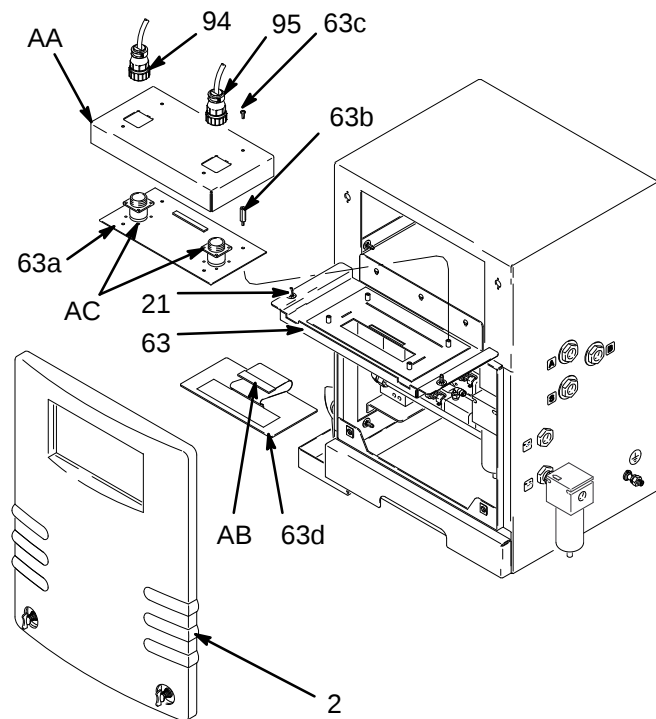

Fig. 1
4. Remove the control front cover (2). See Fig. 1, on the back page.
5. Loosen the two screws (21) from the control panel (63) to allow the panel to drop forward.
6. Disconnect the wire harnesses (94, 95) from the two circuit board connectors (AC).
7. Unscrew the four screws (63c) and remove the circuit board cover (AA).
8. Disconnect the ribbon cable (AB).
11. Connect the ribbon cable (AB) to the circuit board (63a).
12. Place the cover (AA) over the circuit board (63a), and secure it with the screws (63c).
13. Connect the wire harnesses (94, 95) to the two circuit board connectors (AC).
14. Close the panel (63); be sure not to crimp or pinch the wires. Secure the panel with the screws (21).